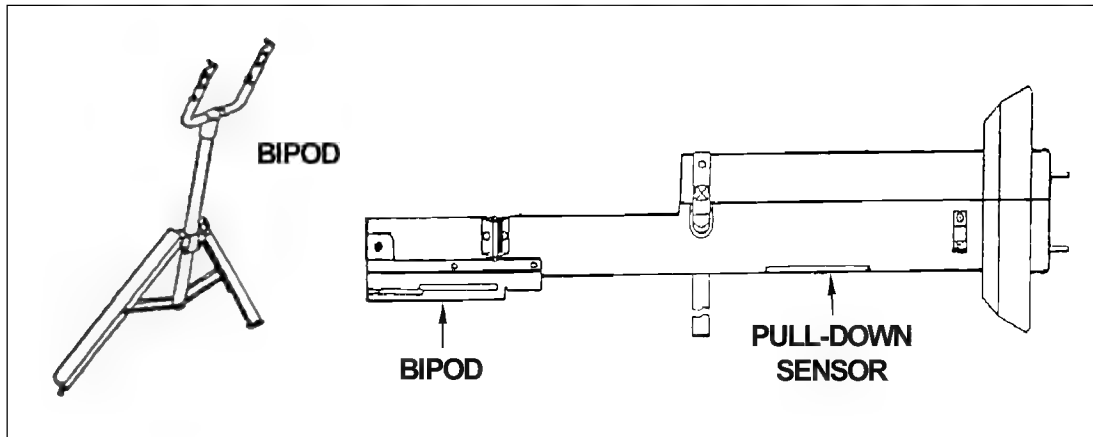

Figure B-12. Bipod and launcher.
b. **Bipod Assembly.** The bipod assembly (Figure B-12), which supports the launcher and sight assemblies, attaches to the front end of the launcher assembly.
c. **Launcher Assembly.** This assembly houses the pull-down sensor (Figure B-12). The sensor measures the force with which the student is pulling down on the launch tube. The weight-drop assembly and bipod attach to the launcher assembly.